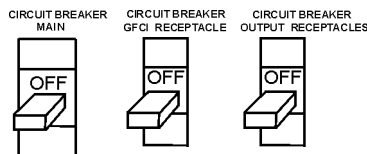

Figure 37. Main, GFCI and Load Circuit Breakers
1. Be sure to disconnect the electrical load and switch the **main**, **load** and **G.F.C.I.** circuit breakers (Figure 37) to the "OFF" position prior to starting the engine.